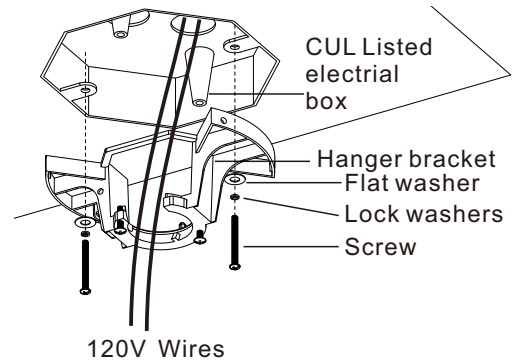

Figure 12
Step 1. Pass the 120-volt supply wires through the center in the ceiling hanger bracket as shown in (Fig. 12)